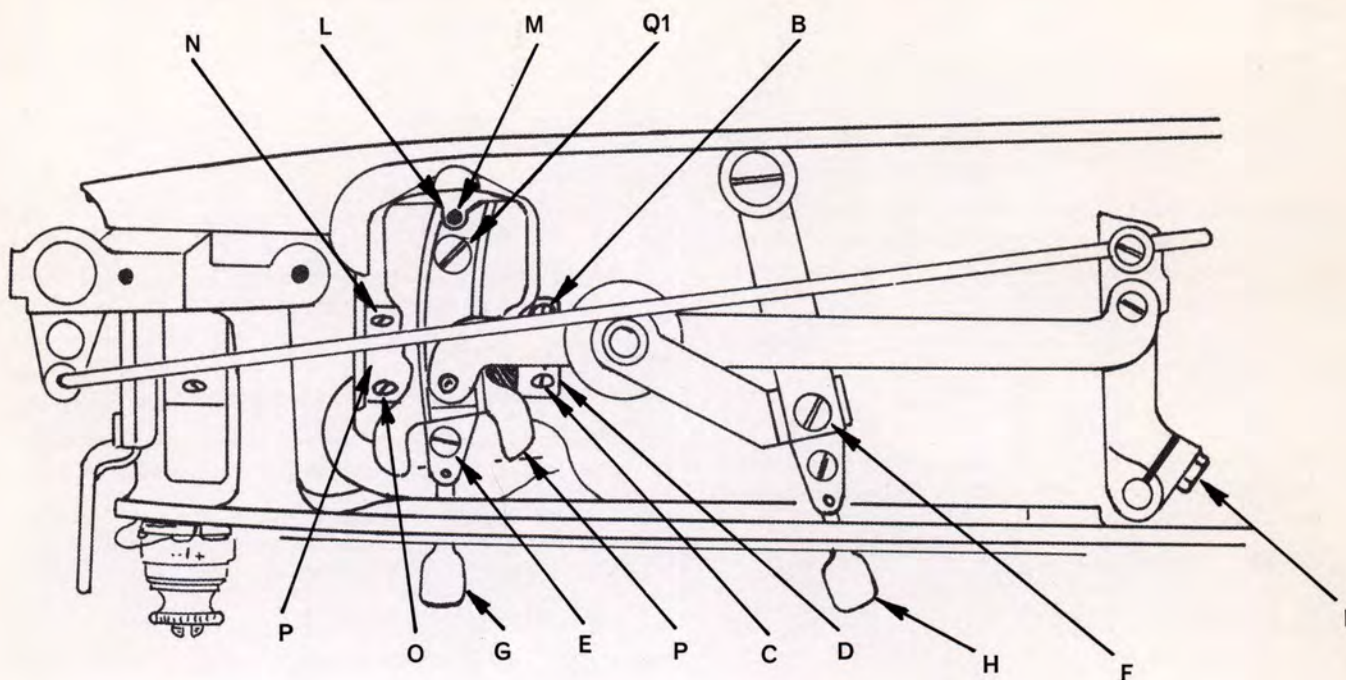

Fig. 45. Time Pendulum movement.
### SETTING (See Fig. 45)
### **CHECK POSITION OF NEEDLE POSITION LEVER (See Fig. 45)**
### **CHECK FOR STRAIGHT STITCH (See Fig. 45)**
2. Turn needle bar vibrating cam and gear eccentric stud Q1 (Fig. 45) lightly to eliminate play, without binding.